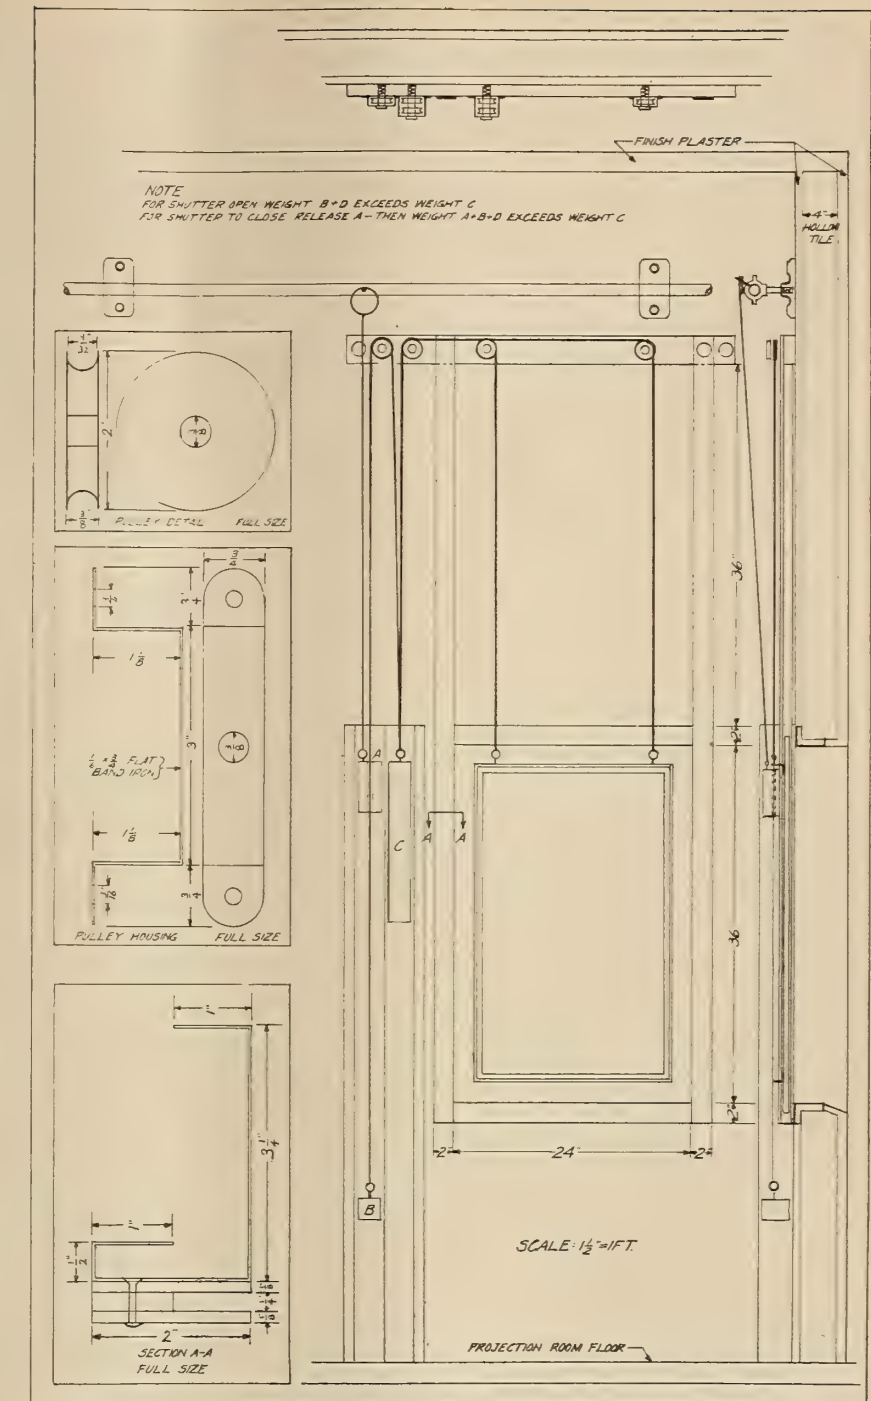

Fig. 4
(16) *Projection Port Shutters.*—(See Fig. 3.) These shall be constructed of not less than 16 gauge iron guides built up of iron flats, 2 inches wide and  $\frac{1}{8}$  inch thick, with spacers 1 inch wide and  $\frac{1}{4}$  inch thick for the shutter to slide in. The shutter shall be made of not less than 10 gauge iron, provided with leather bumpers on sill at the bottom to take up the shock when the shutter drops. Each port shutter shall be connected to a master rod by a string and ring attached to a pin on a master rod. The master rod is to be fastened securely to the front wall, approximately 18 inches below the ceiling. It should be provided with a sufficient number of bearings properly aligned to assure smooth operation, connected through pulleys and fusible links located over each projector and capable of being controlled at the exit so that it may instantly be tripped. All large openings in addition to the above shall be provided with an individual approved counterweight (see Fig. 4) which will permit the shutters to be easily opened and shall be controlled by the master rod. All observation ports shall be provided with metal guides to receive  $\frac{1}{4}$ -inch clear glass, this glass to be at an angle opposite to the projection angle and arranged to be easily removed for cleaning.